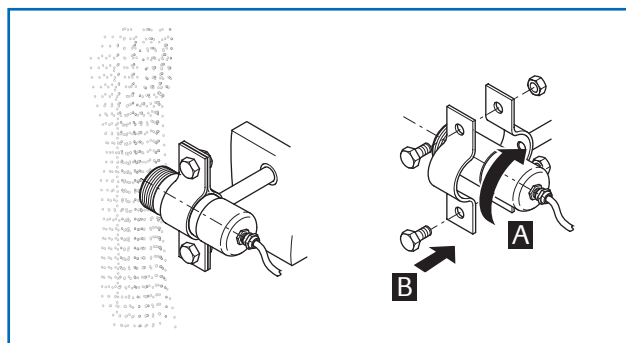

Fig. 5: Mounting with pipe clamp
- mounted by means of a pipe clamp (fig. 5)